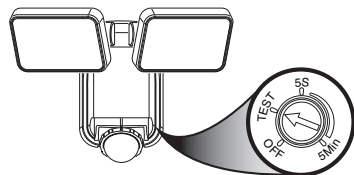

Figure 11
IMPORTANT: Turn the control dial on the side of the sensor to the OFF position and allow the battery to charge with 3 to 7 days of full sunshine before testing (see Figure 11).
1. Turn the control dial to the TEST position (see Figure 11).